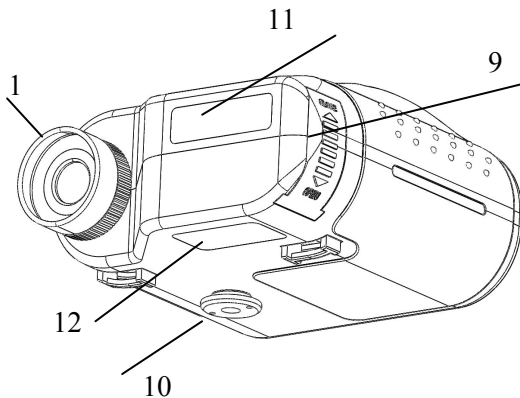

Fig. 2 Front view
- Slide the battery compartment cover down (9, Fig. 2)